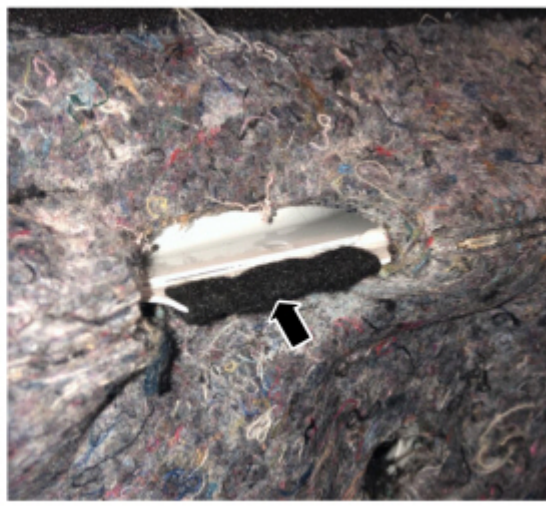

Figure 4
4. Add adhesive backed insulation (felt tape 1-2mm thick) around the edge of the instrument panel at the 3 clip interface locations. (Figure 4)